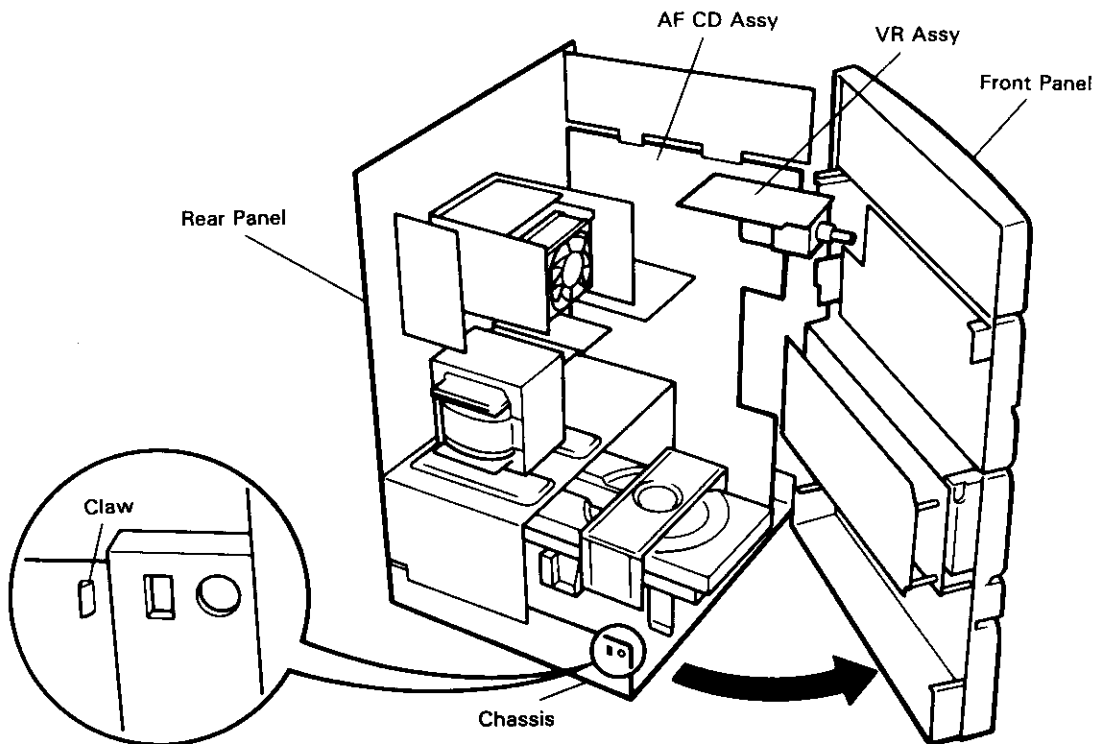

Fig. 1
6. Remove the front panel from the chassis (watching out for the claw on the left and right), and open the side of the AF CD Assy. (Refer to Fig. 1)